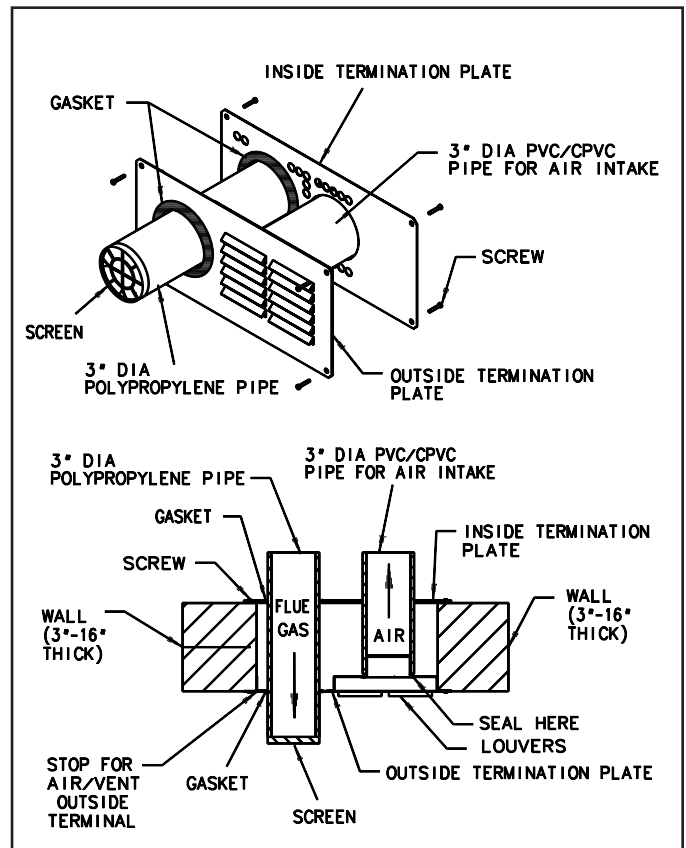

Figure 13c. Vent/Air intake termination; utilizing polypropylene pipe for venting.
**Note: For venting with polypropylene pipe, special gasket (P# 813005000) must be added to inside and outside plate as shown on figure 13c.**